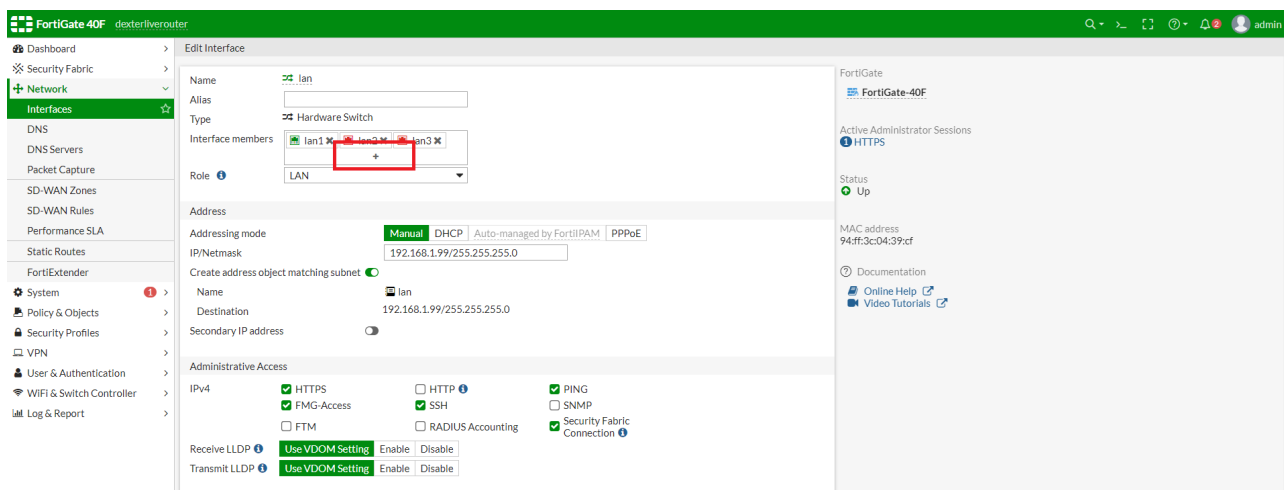

Figure 23
16. Enable the fourth port (port A-) to be used on the LAN Interface by selecting the "+" under "Interface Members" (Figure 23).